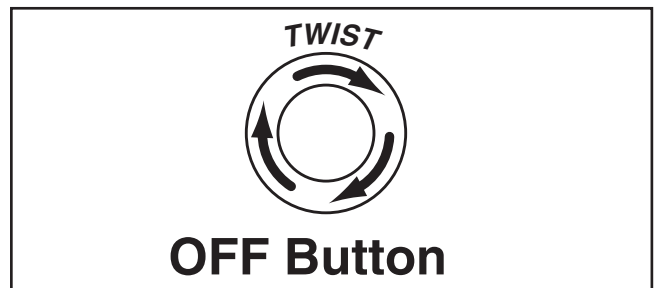

Figure 33. Resetting the switch.
7. Push the OFF button in, then twist it clockwise so it pops out. When the OFF button pops out, the switch is reset and ready for operation (see **Figure 33**).